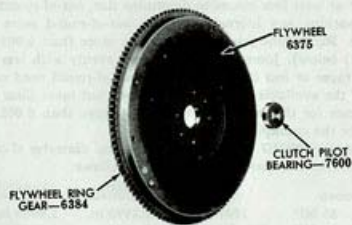

Fig. 13—Flywheel and Clutch Pilot Bearing (Truck)
b. **Flywheel.** Wash the flywheel thoroughly. Replace or reface a flywheel (fig. 13) that has an excessively worn or scored friction face. Replace a flywheel ring gear that is cracked, chipped or has excessively worn teeth (subpar. (1) below). Replace the clutch pilot bearing if it is excessively worn or does not revolve freely and smoothly (subpar. (2) below).
(3) **PILOT BEARING REPLACEMENT.** Drive the pilot bearing out of the flywheel (figs. 13 and 14). Install the pilot bearing with the open side of the bearing toward the engine side of the flywheel, using a driver (fig. 14) that applies pressure to the outer race of the bearing.